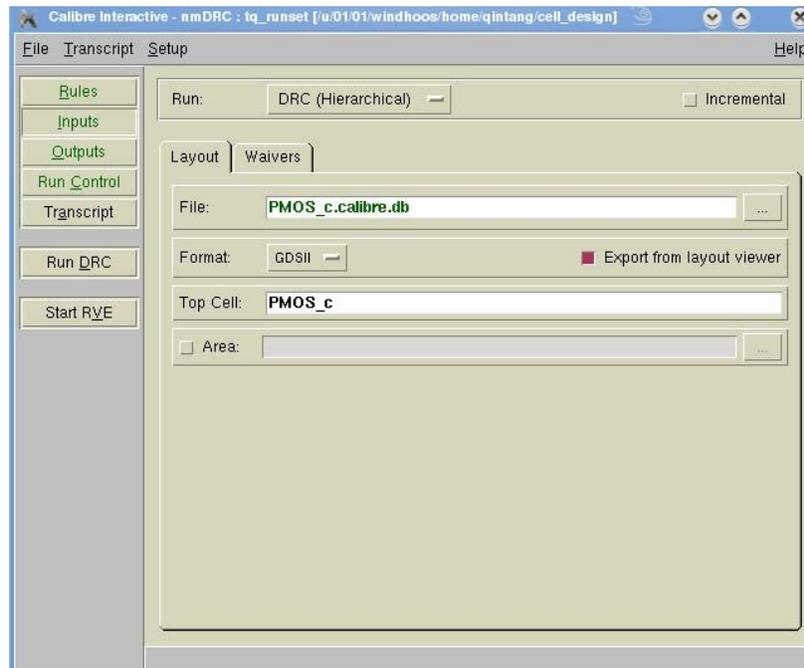

Fig 11. Specifying the top cell
2. Specify the 'Top Cell' (Fig 11). If you need to change some DRC switches, you have to edit the Calibre DRC file.